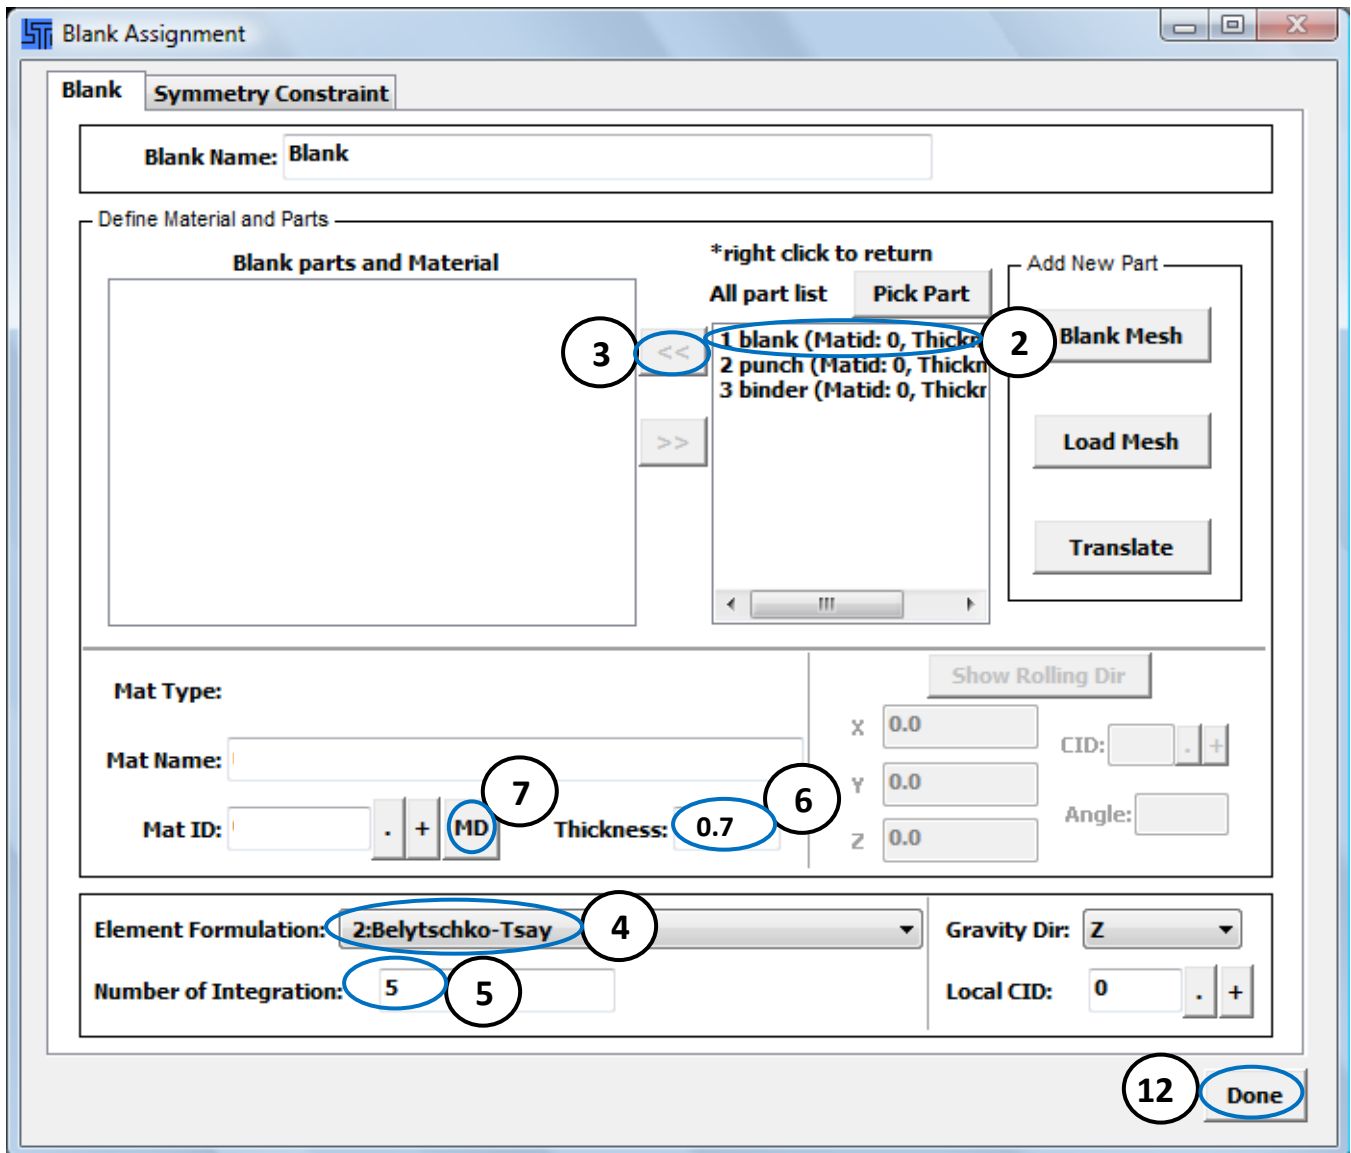

Figure 3
click *Blank* in the side panel (launches Blank Dialog shown in Figure 3)
- click *Done* (Figure3)